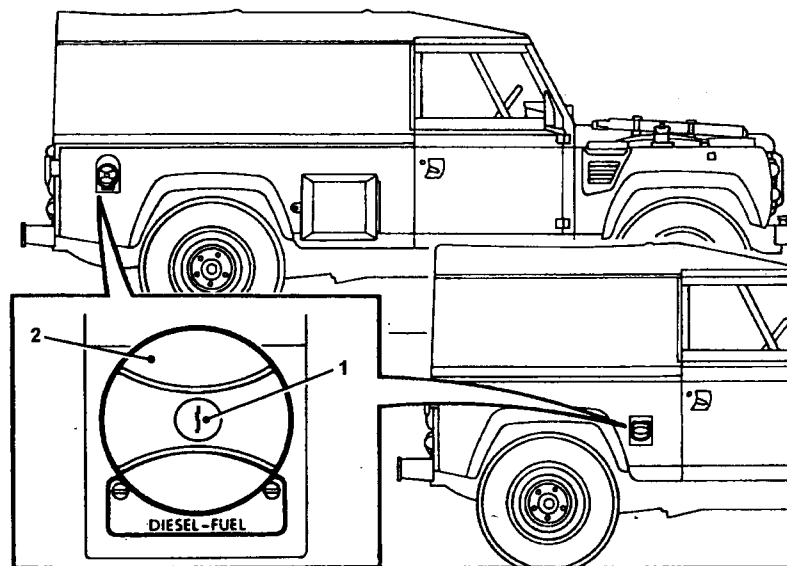

Fig 2 Fuel cap
23 The fuel cap (Fig 2 (2)) is secured by a lock located in the centre of the filler cap on both TUL and TUM vehicles. To release the cap proceed as follows:
- 23.1 Insert the key into the lock (1) and turn in an anti-clockwise direction.